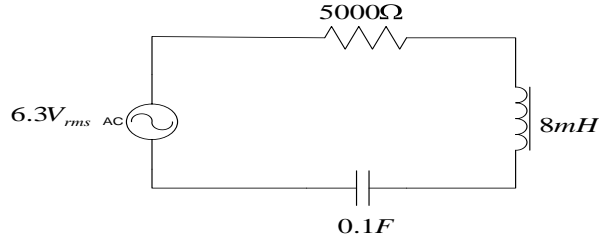
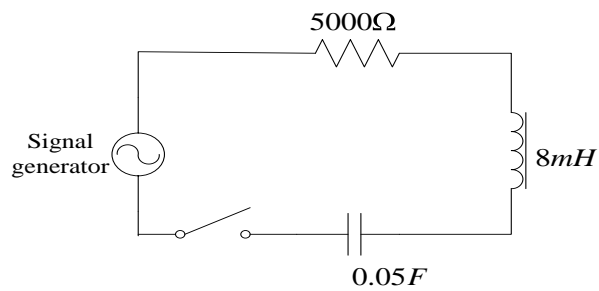

Fig. 1
Fig. 2
- 1) Wire the circuit as shown in fig.1
- 5) Compute the impedance z of the RLC circuit in fig. 1 using the formula:  $Z = \frac{E}{I}$
- 1) Disconnect the power supply from the circuit in fig. 1 and connect the circuit as shown in fig. 2. **GET YOUR CIRCUIT APPROVED.**
1. State the condition for which the current I will be a maximum, and impedance z a minimum in circuit in fig. 2.
7. In fig. 2 what should be the effect on  $Z$ , if any, of interchanging  $L$  and  $c$ ? Why?